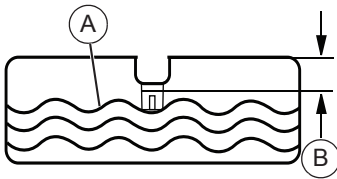

Figure 2-10. Add Recommended Fuel
4. Slowly add recommended fuel (A). Do not overfill (B). See Figure 2-10.